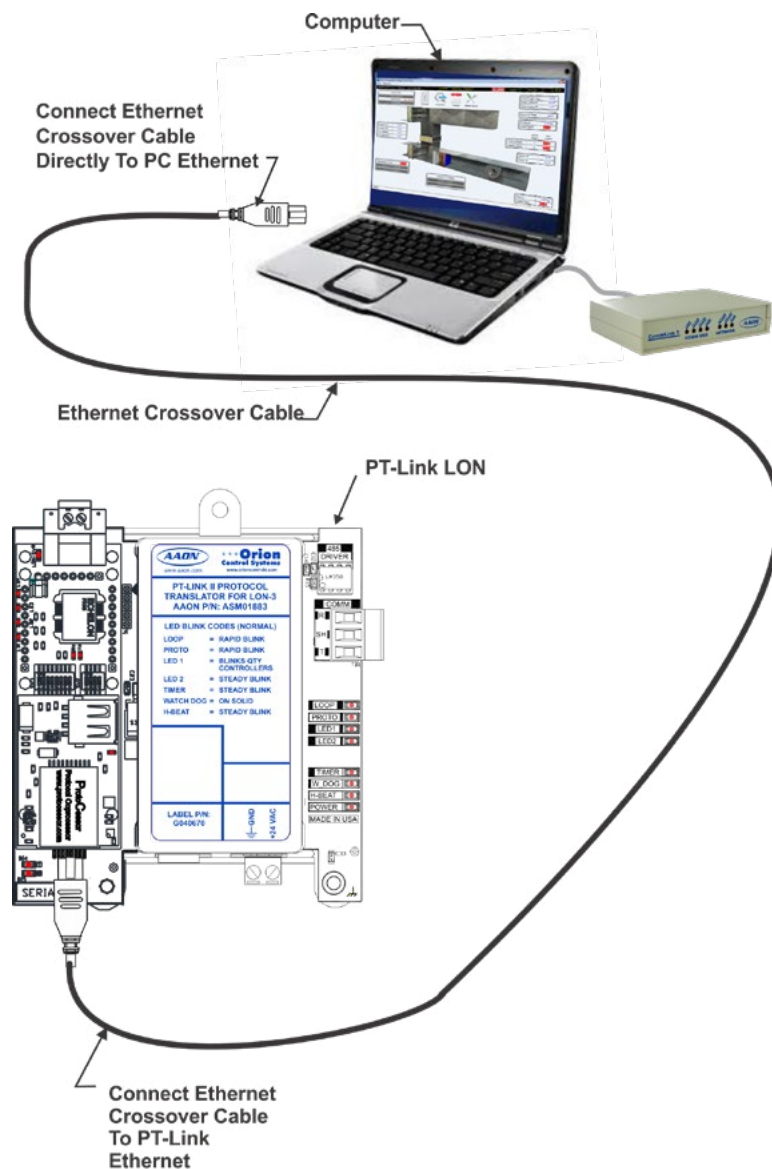

Figure 28: Connecting with a Crossover Cable
1. Refer to **Figure 28, page 17** for instructions on how to connect your PT-Link to your computer using an ethernet connection.